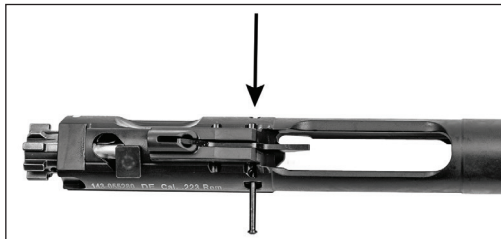

Fig. 19 – Drift out the Firing Pin Retaining Pin
- b. Push the firing pin retaining pin from right to left (Fig. 19).